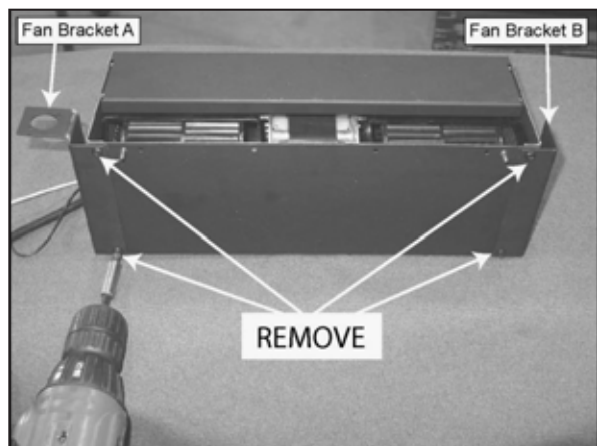

Figure 28
1. Disconnect gas (if connected) and remove the four screws from the blower housing as shown in **Figure 28** and set screws aside.